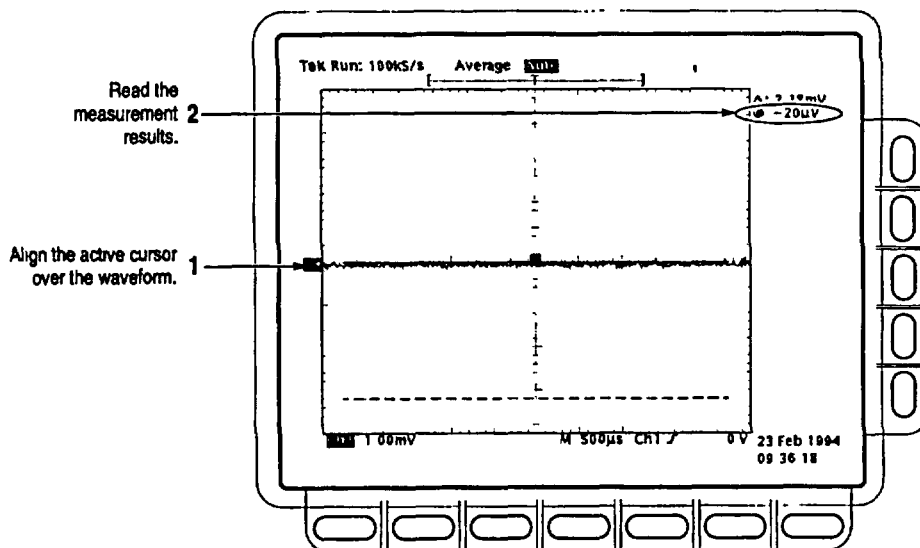

Figure 2. Dc offset.
- (10) Press main-menu **Function** key.
- (11) Press side-menu **H Bars** key.
- (12) Press front-panel **CLEAR MENU** key.
- (13) Press front-panel **CH 1** key.
- (14) Press front-panel **VERTICAL MENU** key.
- (15) Press main-menu **Fine Scale** key.
- (16) Use front-panel keypad to enter 1 mV vertical Fine Scale setting. Press front panel **1** key.
- (17) Press front panel **SHIFT** key.
- (18) Press front panel **m** key.
- (19) Press front panel **ENTER** key.
(21) Rotate front-panel general purpose knob to align active cursor over waveform. See figure 2. If TI @ readout does not indicate within 0 V, ± 1.6 mV, perform b below.